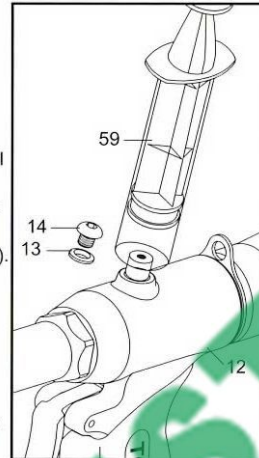

Fig.6
- Reassemble the Lock Nut (9) and put back the Lock Washer (8), reassemble the Rear Jaw Case (7) adjacent to the Lock Washer (8), then put the Jaw Pusher Spring (6) into the Rear Jaw Case (7).
- Carefully put the Jaws (4) into the Front Jaw Case (3) and put the Jaw Pusher (5) to fit the Jaws (4) properly (Fig.6), then fasten these parts to the Rear Jaw Case (7) firmly by the Wrench 22 (57) and Wrench 27-12 (58). Make sure that the Lock Nut (9) is still not fastened firmly.
- Be sure to disconnect the tool from the compressed air supply system before unscrewing the Oil Screw Plug (14).
- Make sure to tighten the Oil Screw Plug (14) firmly after refilling oil.
1. Connect the tool to the compressed air supply system, depress the Trigger (30) twice to move the inner Oil Piston Assembly (15AY) and Air Piston Assembly (50AY).
3. Push the piston of the Hydraulic Oil Injector (59) forwards to the end, and then immerse the fitting of Hydraulic Oil Injector (59) in the new hydraulic oil and slowly pull the piston backwards to suck the new Hydraulic Oil around 25 ml into the Hydraulic Oil Injector (59). **Make sure that the Hydraulic Oil Injector (59) contains no air bubbles in the oil. (Fig.6)**
4. Carefully unscrew the Oil Screw Plug (14) and remove the Sealing Washer (13).
5. Gently rotate to screw the fitting of Hydraulic Oil Injector (59) into the oil refill hole of Oil Cylinder (12) firmly.
6. Depress the piston of Hydraulic Oil Injector (59) forwards to inject oil until the piston can not move further.
7. Gently unscrew to remove the fitting of Hydraulic Oil Injector (59) from the oil refill hole of Oil Cylinder (12). Wipe away the spilled oil, if any.
8. Restore the Sealing Washer (13), and tighten the Oil Screw Plug (14) firmly.